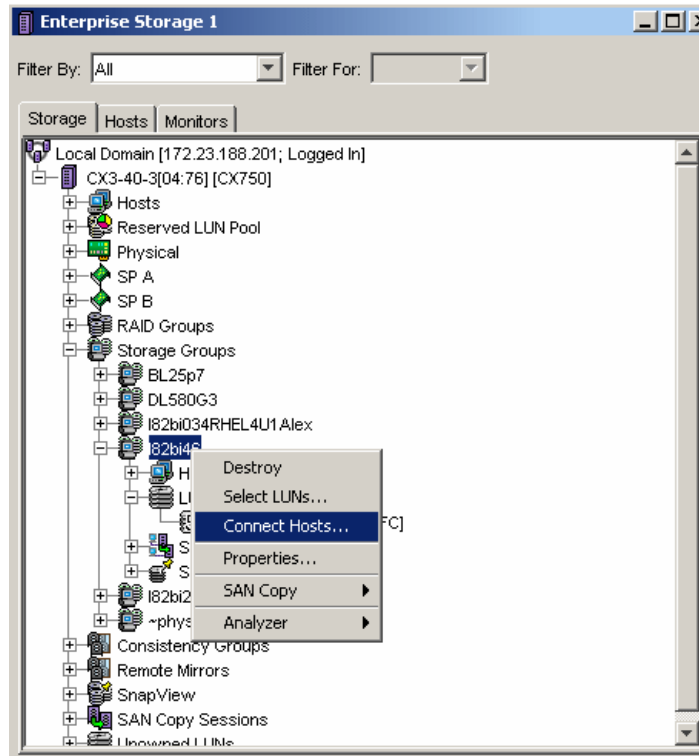

Figure 8-44 Enterprise Storage 1 window
16. Notice the change in the Registered and Server Name columns once the record has been registered. Click **OK** and return to Enterprise Storage 1 window (Figure 8-44).